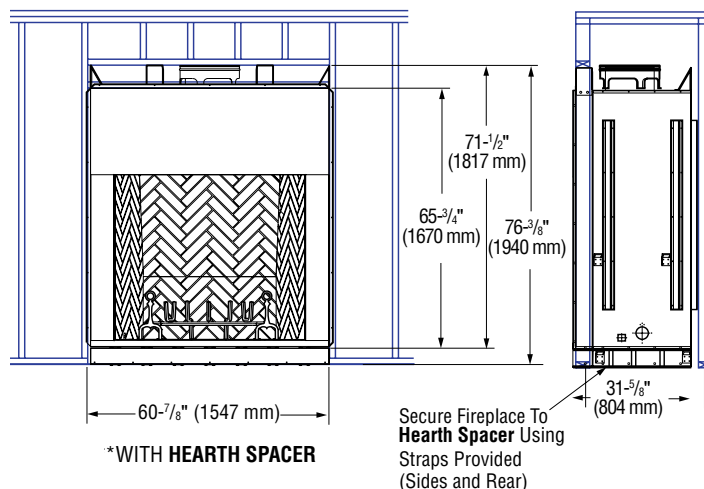

Figure 1 - Framing Dimensions
1. The location must allow for proper clearances (see Figures 1 and 2).
1. Frame the opening for the fireplace using the dimensions shown in Figures 1 and 2.